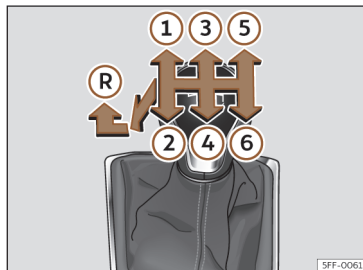

Fig. 122 Diagram of a 6-speed manual gearbox.
Gear positions are indicated on the gear lever >>> **Fig. 122**.
- With the gear lever in neutral, push it down, move it all the way to the left and then forwards to select reverse gear >>> Fig. 122 (R).